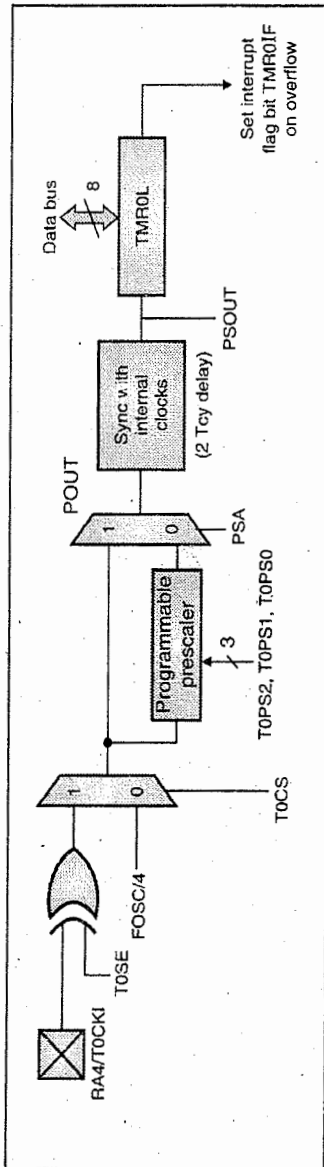
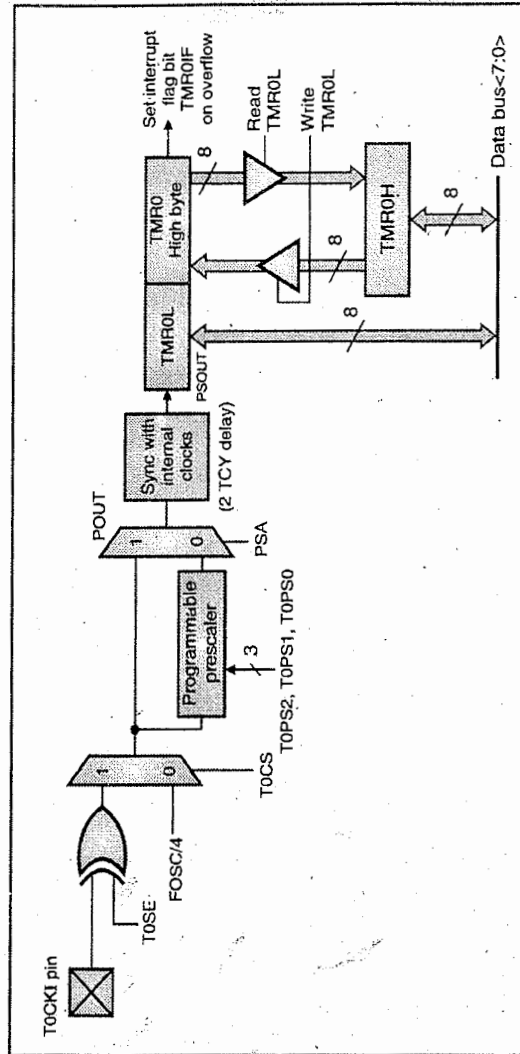

Fig. 7.3.1 : TIMER 0 block diagram in 8-BIT mode
Fig. 7.3.2 : TIMER 0 block diagram in 16-BIT mode
Fig. 7.3.1 shows a simplified block diagram of the Timer 0 in 8-bit mode and Fig. 7.3.2 shows a simplified block diagram of the Timer 0 in 16-bit mode.
- As shown in Fig. 7.3.2, the TMR0H register behaves as a buffer between the internal data bus and TMR0 high byte. When the TMR0L register is read by the microcontroller, the contents of the TMR0 high byte are sent to the TMR0H register. When the microcontroller reads the high byte, it is read from TMR0H register.